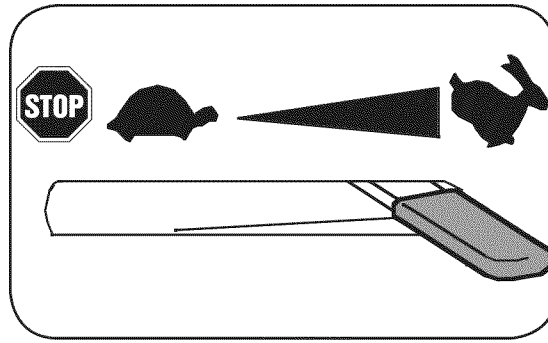

Figure 10
3. The throttle control lever is located on the engine. Move engine throttle control lever to FAST or START position. See Figure 10.